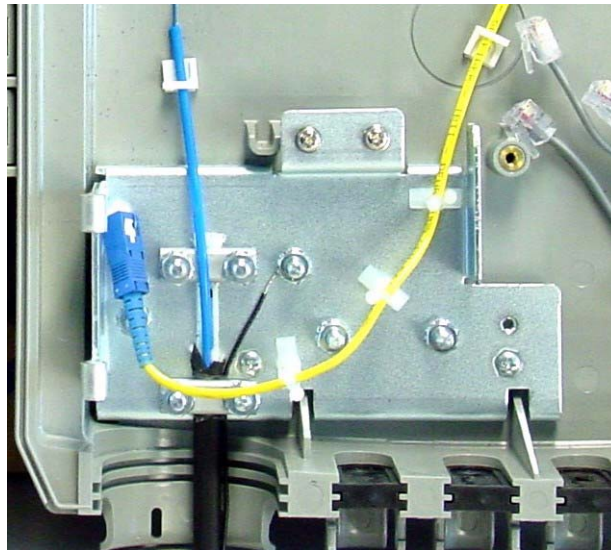

Figure 25. Routing the Optical Wire through the Clips
1. Connect the optical fiber and pigtail to the back of the enclosure with adhesive clips, as shown in Figure 25.
3. Ensure the pigtail forms a continuous curve of the same angle through the fiber clips and where it will plug into the iMG646MOD unit. Again, refer to Figure 25